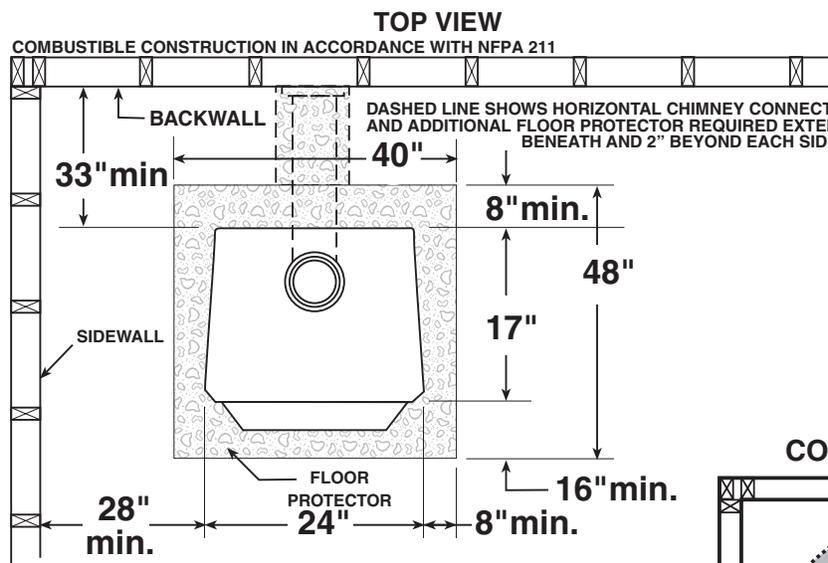

Fig. 1 – TOP VIEW Minimum Clearance Dimensions from Combustible Surfaces
1. The installation of this stove must comply with your local building code rulings. Please observe the clearances to combustibles (see reference figures 1–3). Do not place furniture or other objects within the clearance area.
3. **DO NOT** store wood, flammable liquids or other combustible materials too close to the unit. Refer to certification label on back of unit and reference figures 1 – 3 in this manual.
1. The stove must be placed on solid concrete, solid masonry, or when installed on a combustible floor, on a listed floor protector, such as Hy-C or Imperial Model UL 4048BK or equivalent with 0.8 R-factor. (NOTE: to calculate R-value of alternative materials see page 16). The base must extend at least 16" beyond the side with the access door, 8" to the sides of fuel opening, 8" behind the stove, and **must** extend under the stove pipe and 2" beyond each side if it is elbowed towards a wall. (See figures 1 & 3 and consult local building codes and fire protection ordinances)
**CAUTION: (FIRE HAZARD) CARPETING AND OTHER COMBUSTIBLE MATERIAL MUST NOT COVER THE FLOOR PROTECTOR. THESE MATERIALS MUST REMAIN OUTSIDE OF COMBUSTIBLE CLEARANCES, SEE FIG. 1- 3.**
3. After observing the clearances to combustible materials (figures 1-3), locate your floor protector accordingly (figure 1) and carefully place the stove in your selected location. Install connector pipe, elbows, and thimble as
- Use round 6" dia., minimum 24 MSG (minimum standard gauge) black or 26 MSG blue steel stove pipe to connect the stove to the chimney. Do not use galvanized stove pipe. Secure pipe sections with three (3) sheet metal screws in each stove pipe and/or elbow joint to firmly hold the pipe sections together. **Do not connect this stove to any air distribution or duct system.**
- Recheck clearances from the stove, connector stove pipe, and corner clearances using the illustrations in figures 1–3 and your local building codes or fire protection ordinances.